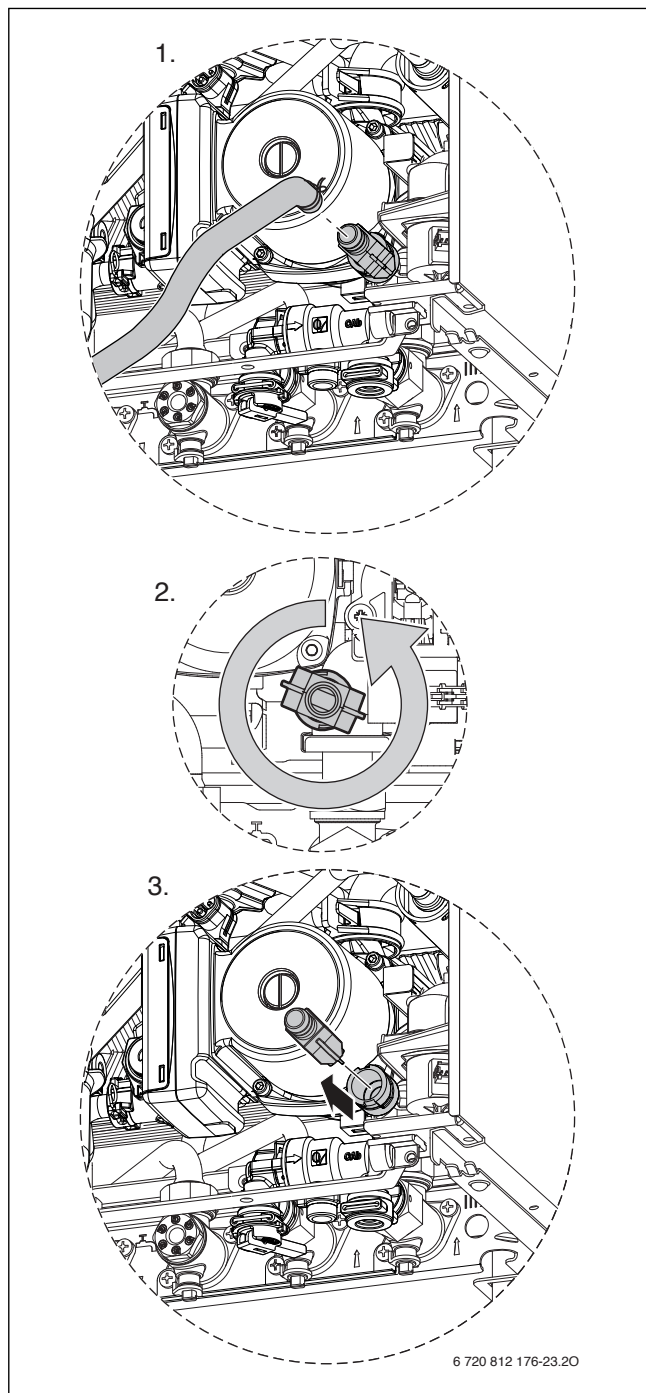

Fig. 97 Drain tap removal
- Disconnect the drain pipe from the drain tap (see e. g. step 1 in Fig. 97).